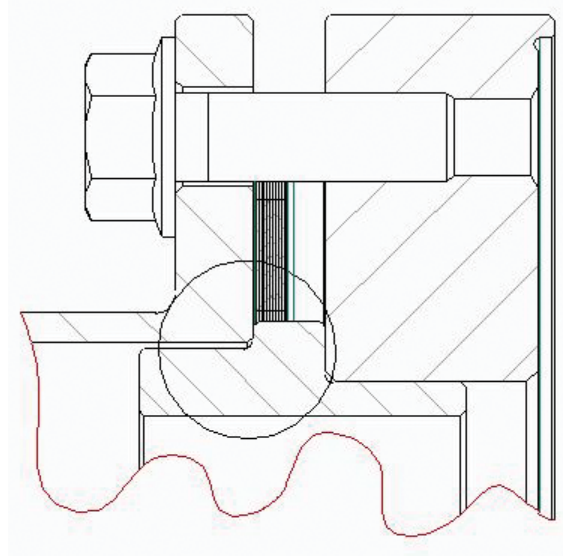

Figure 12
- 10.4 Use a progressive tightening pattern until the spacer flange is pressed against the raised boss of the protruded anti-flail feature of the adapter as shown in Figure 12 below. Use the same process on both sides of the spacer assembly.